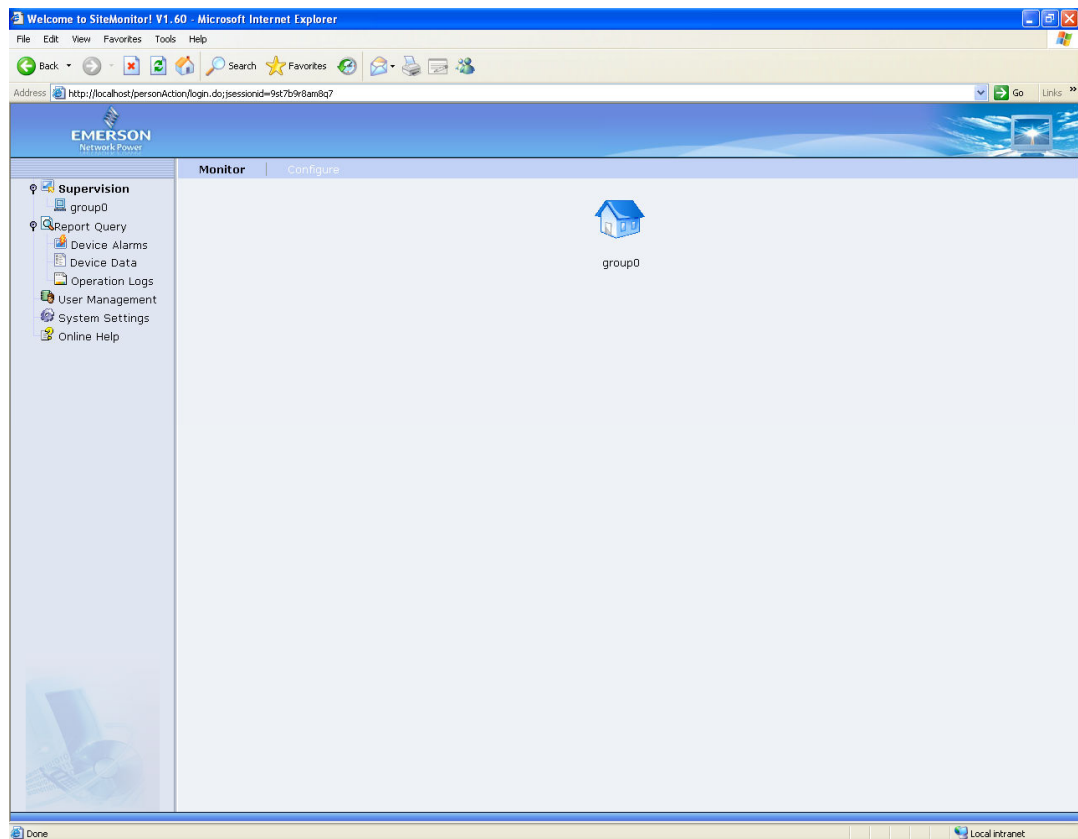

Figure 23 UPS DPG interface
3. Input the user name "admin" and the password will disappear automatically. Click the **Sign In** button to pop up the interface shown in Figure 23.